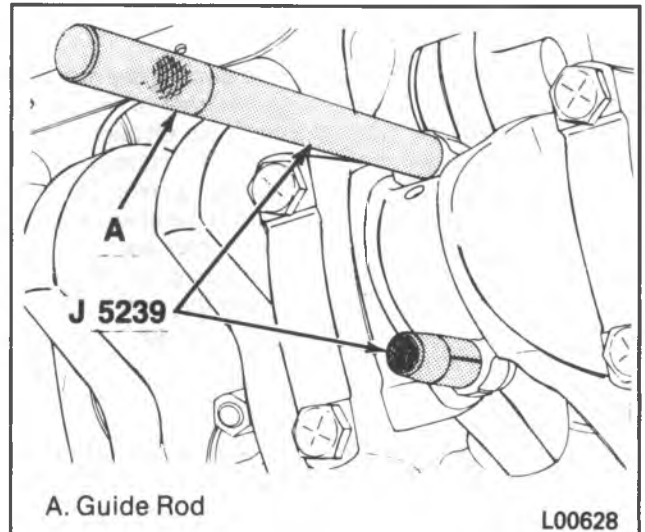
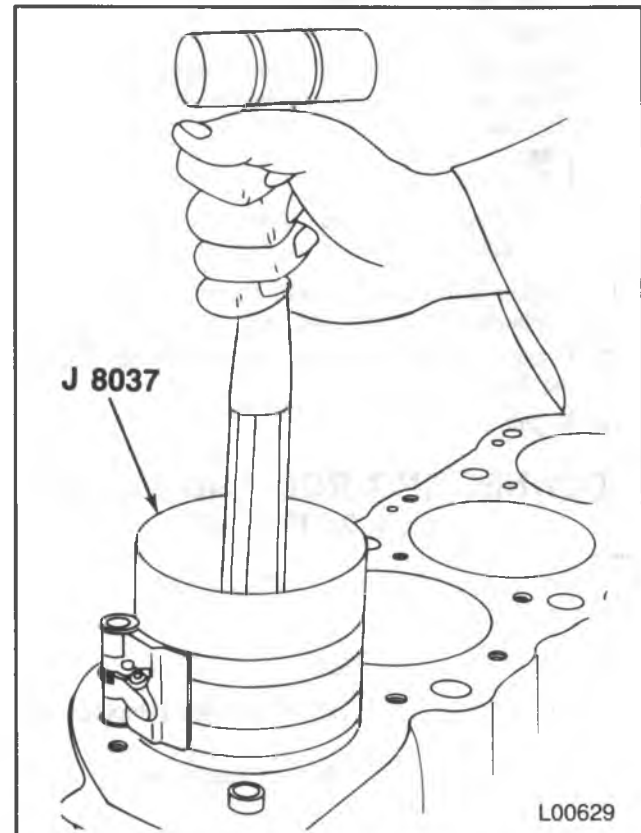

Figure 29 — Replacing the Connecting Rod and Piston (Typical)
Figure 31 — Installing the Piston
Remove or Disconnect (Figure 29)
- Attach J 5239 to the connecting rod bolts (figure 29).
Install or Connect (Figures 29 through 32)
- With the connecting rod cap removed, install J 5239 onto the connecting rod studs (figure 29).
- Without disturbing the ring end gap location, install J 8037 over the piston (figure 31).
- Place the piston in its matching bore. The connecting rod bearing tang slots must be on the side opposite the camshaft. Using light blows with a hammer handle, tap the piston down into its bore (figure 31). At the same time, from beneath the vehicle, guide the connecting rod to the crankpin with J 5239 (figure 29). Hold the ring compressor against the block until all rings have entered the cylinder bore.